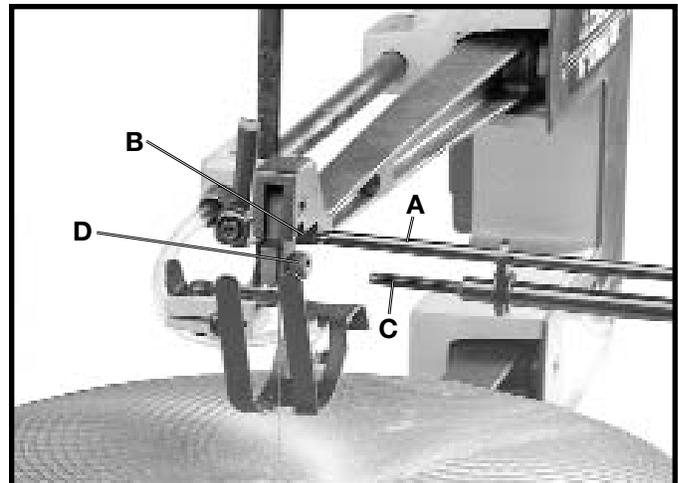

Fig. 14
4. Insert long end (A) Fig. 14, of quickset blade changing wrench into hole (B) in upper blade holder. This will automatically align wrench (C) with blade holder screw (D).